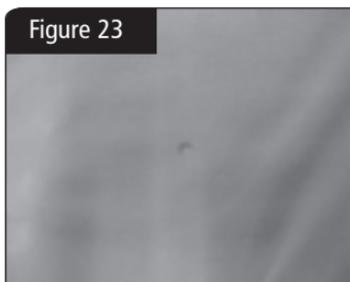

Figure 23
5. Ensure dry suit material is flat and wrinkle free around the puncture. See Figure 23.